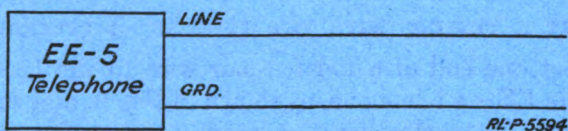

Fig. 11.—Type EE-5 telephone connected to open circuit
3. Connect one end of a twisted-pair wire to the "Line" and "Grnd." terminals of the EE-5 telephone as shown in Fig. 11 and turn the generator crank. Then blow in the transmitter and note whether the sound can be heard in the receiver.